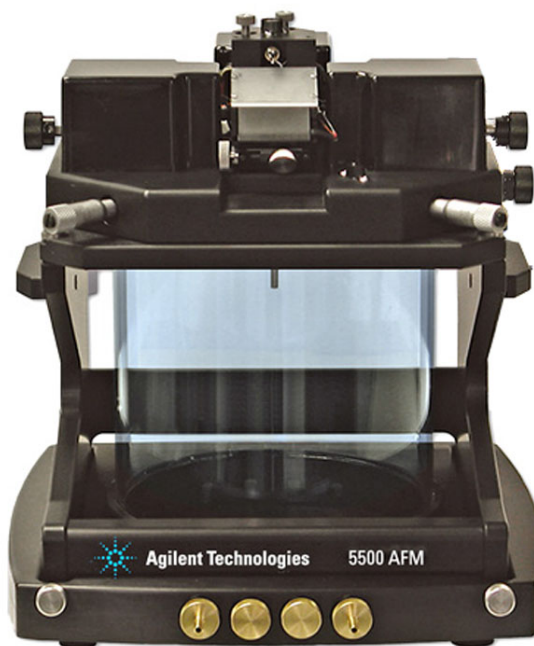

Figure 195 Environmental chamber on microscope
- 5 Swing the microscope back down over the environmental chamber. A groove in the underside of the microscope plate provides a tight seal with the gasket on the top of the chamber (Figure 195).